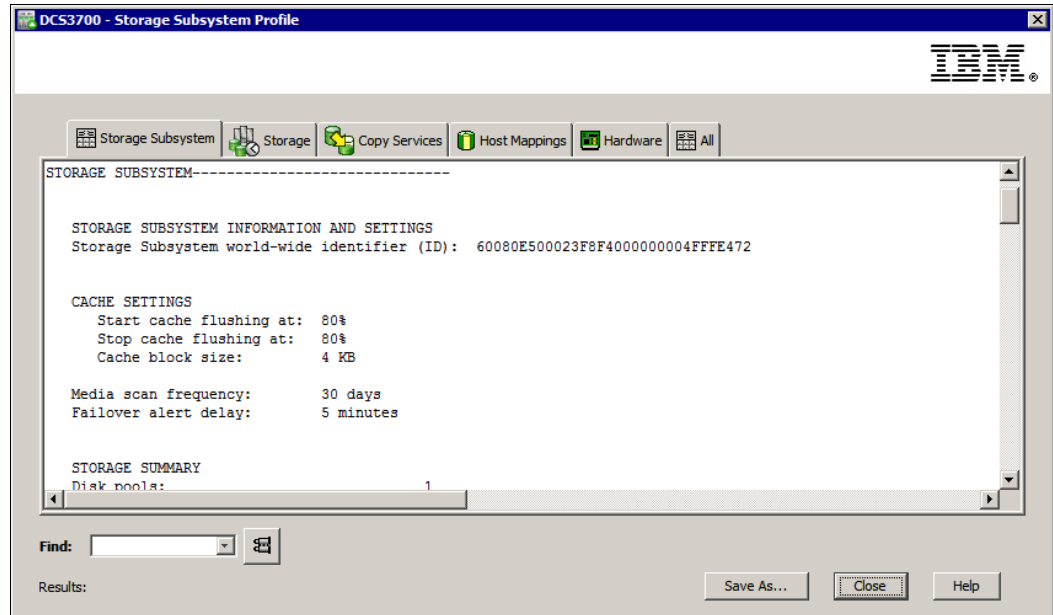

Figure 13-24 The default view when viewing the DCS3700 storage subsystem profile
1. Click **View Storage Subsystem Profile** in the Summary tab under Monitor Group (Figure 13-1 on page 386). The Storage Subsystem Profile window opens, as shown in Figure 13-24.
4. After the profile is saved, click **Close** (in Figure 13-24 on page 408) to return to the Support tab.